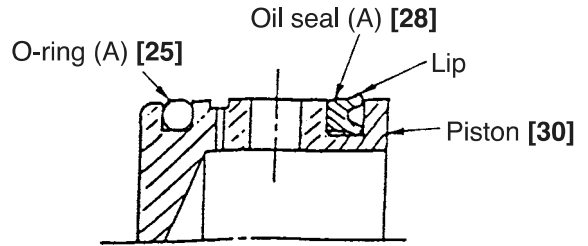

Fig. 6
(4) Mounting Oil Seal (A) [28]:
When mounting Oil Seal (A) [28] on the Piston [30], ensure that the lip portion of the oil seal is directed toward the rear surface of the piston, as illustrated in Fig. 6.